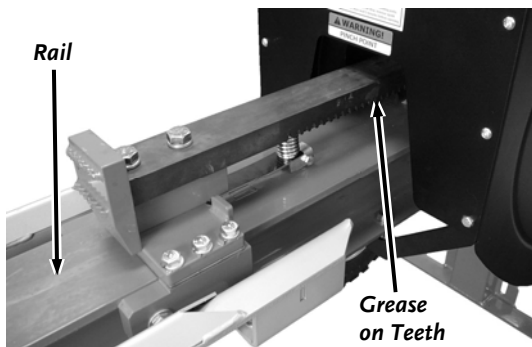

Figure 20
- Grease the Rack Teeth with All Purpose Grease (**Figure 20**).
Between each use of the LOG SPLITTER, we recommend applying a rust preventative (Fluid Film or equivalent) to any bare metal areas on the top of the rail (**Figure 20**). This will assure the longest possible service life of the Wear Plate.